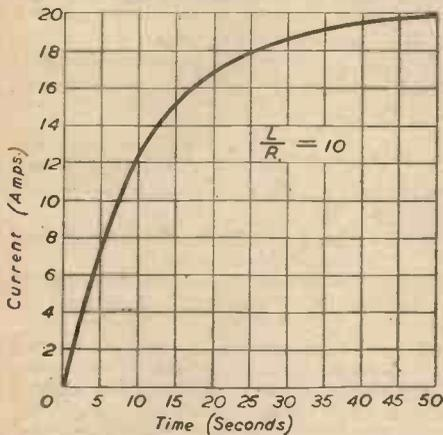

Fig. 1.—Growth of current in an electro-magnet coil.
it so that it does not immediately reach the steady maximum value. Fig. 1 indicates the growth of current in a coil in which the coefficient of self-inductance is 10 times the resistance. The actual current (C) at any instant t seconds after applying a steady voltage E , can be found from the formula